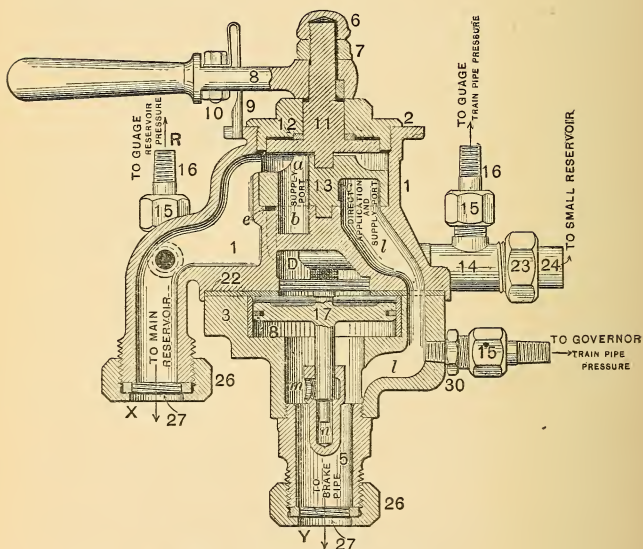

FIG. 17.—D 8 BRAKE VALVE.
A. With the handle 8 of the valve (Fig. 17) in full release position, the air coming from the main reservoir enters the engineer's valve at *X*, passes on top of the rotary, through port *a* of the rotary 13, port *b* of the rotary seat and into cavity *c* of the rotary, thence through port *l* and into the train line at *Y*.
exposed to cavity *c*, and as air passes into the train line it also passes up into cavity *c* and through port *g* (See Figs. 17 and 19) into cavity *D*, or the little drum.
*A.* The pump governor, which is actuated by train-line pressure. (See 16, Fig. 17.)